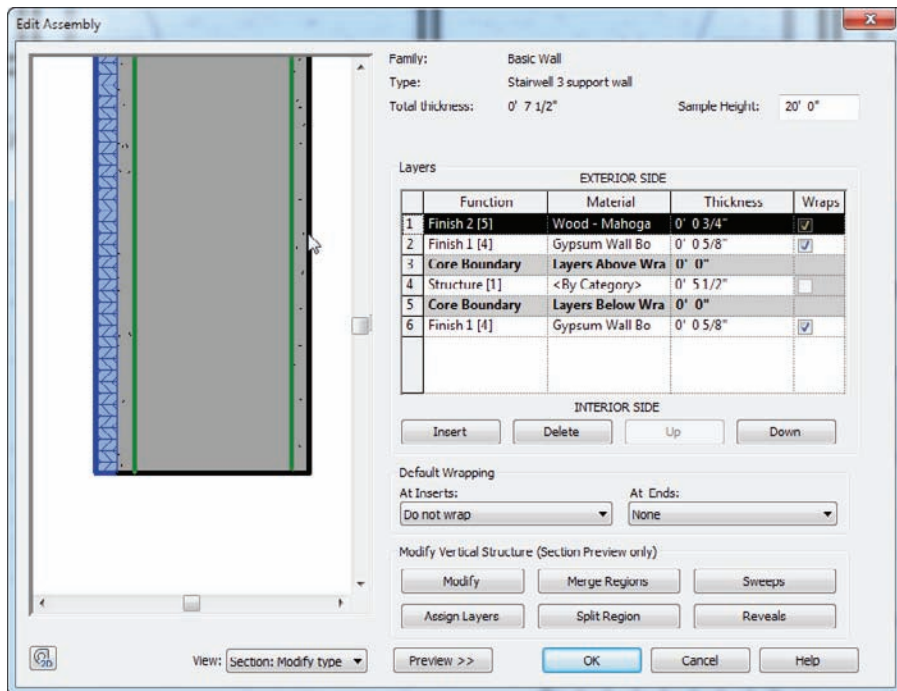

FIGURE 16.5 Adding the 3/4" (19mm) mahogany veneered plywood material
5. Change the Thickness to 3/4" (19mm). Your wall's layers should resemble Figure 16.5.